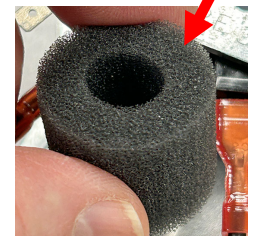

Figure 26
- 26) Slide the foam filter up around the cap screw to remove the filter (see Figure 26).